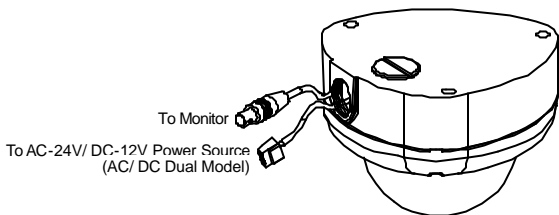

Figure 5
- (6) Connect the Video Output to the monitor or other video device through a 75 Ohms type coaxial cable. Connect the AC/DC-Terminator with power source (as shown on figure 5).